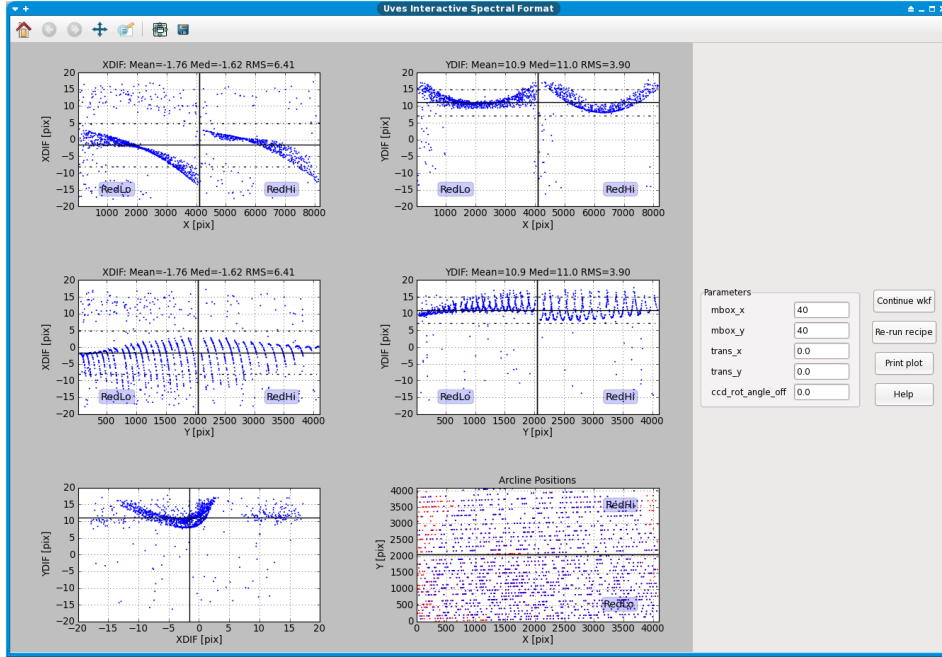

Figure 8: The interactive window for the Spectrum Locator actor for the first LoSO in the data supplied with Reflex 1.1.
5. **Spectrum Locator:** During the execution of the Spectrum Locator actor, an interactive window will appear as shown in Figure 8. The interactive window consists of six plots, five pipeline recipe parameters that may be changed, four buttons on the right, and a panel of buttons at the top-left. Help for each of these features may be accessed by leaving the mouse pointer for about one second over the plot/parameter/button for which information is required.